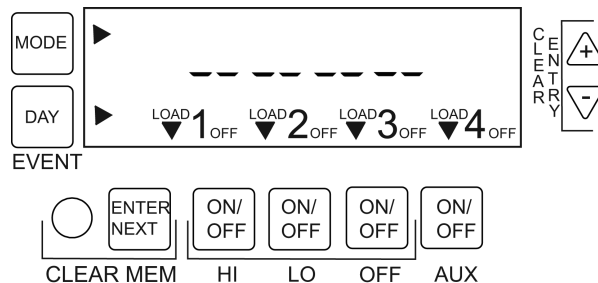

Figure 4 Initial screen after power up
- Turn the controller ON. Hyphens appear on the screen as shown in Figure 4.